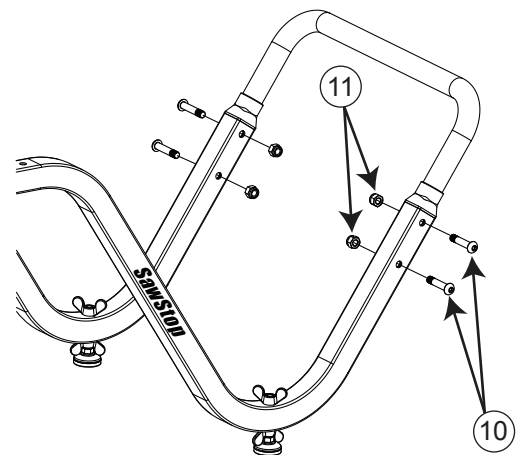

Fig. 9
- Use a 17 mm wrench and the included 6 mm hex key to mount the handle in place with four M10 x 50 button head socket bolts and four M10 lock nuts (see in Fig. 9).